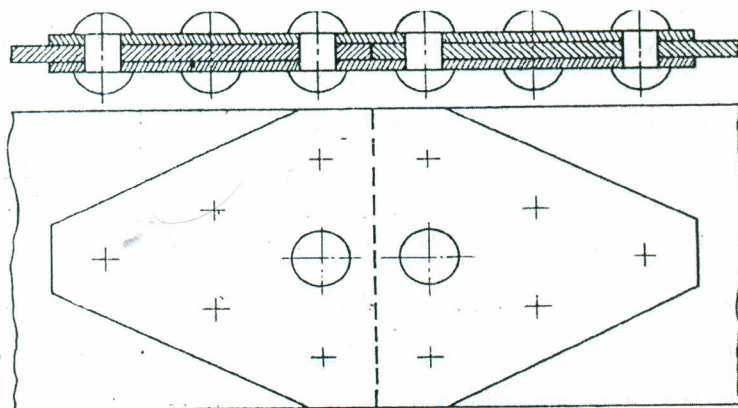

Fig. 1
- Q.8A Draw three dimensioned view of the riveted joint for a tie bar as shown in fig. 1. Take thickness of bar as 12 mm. 15